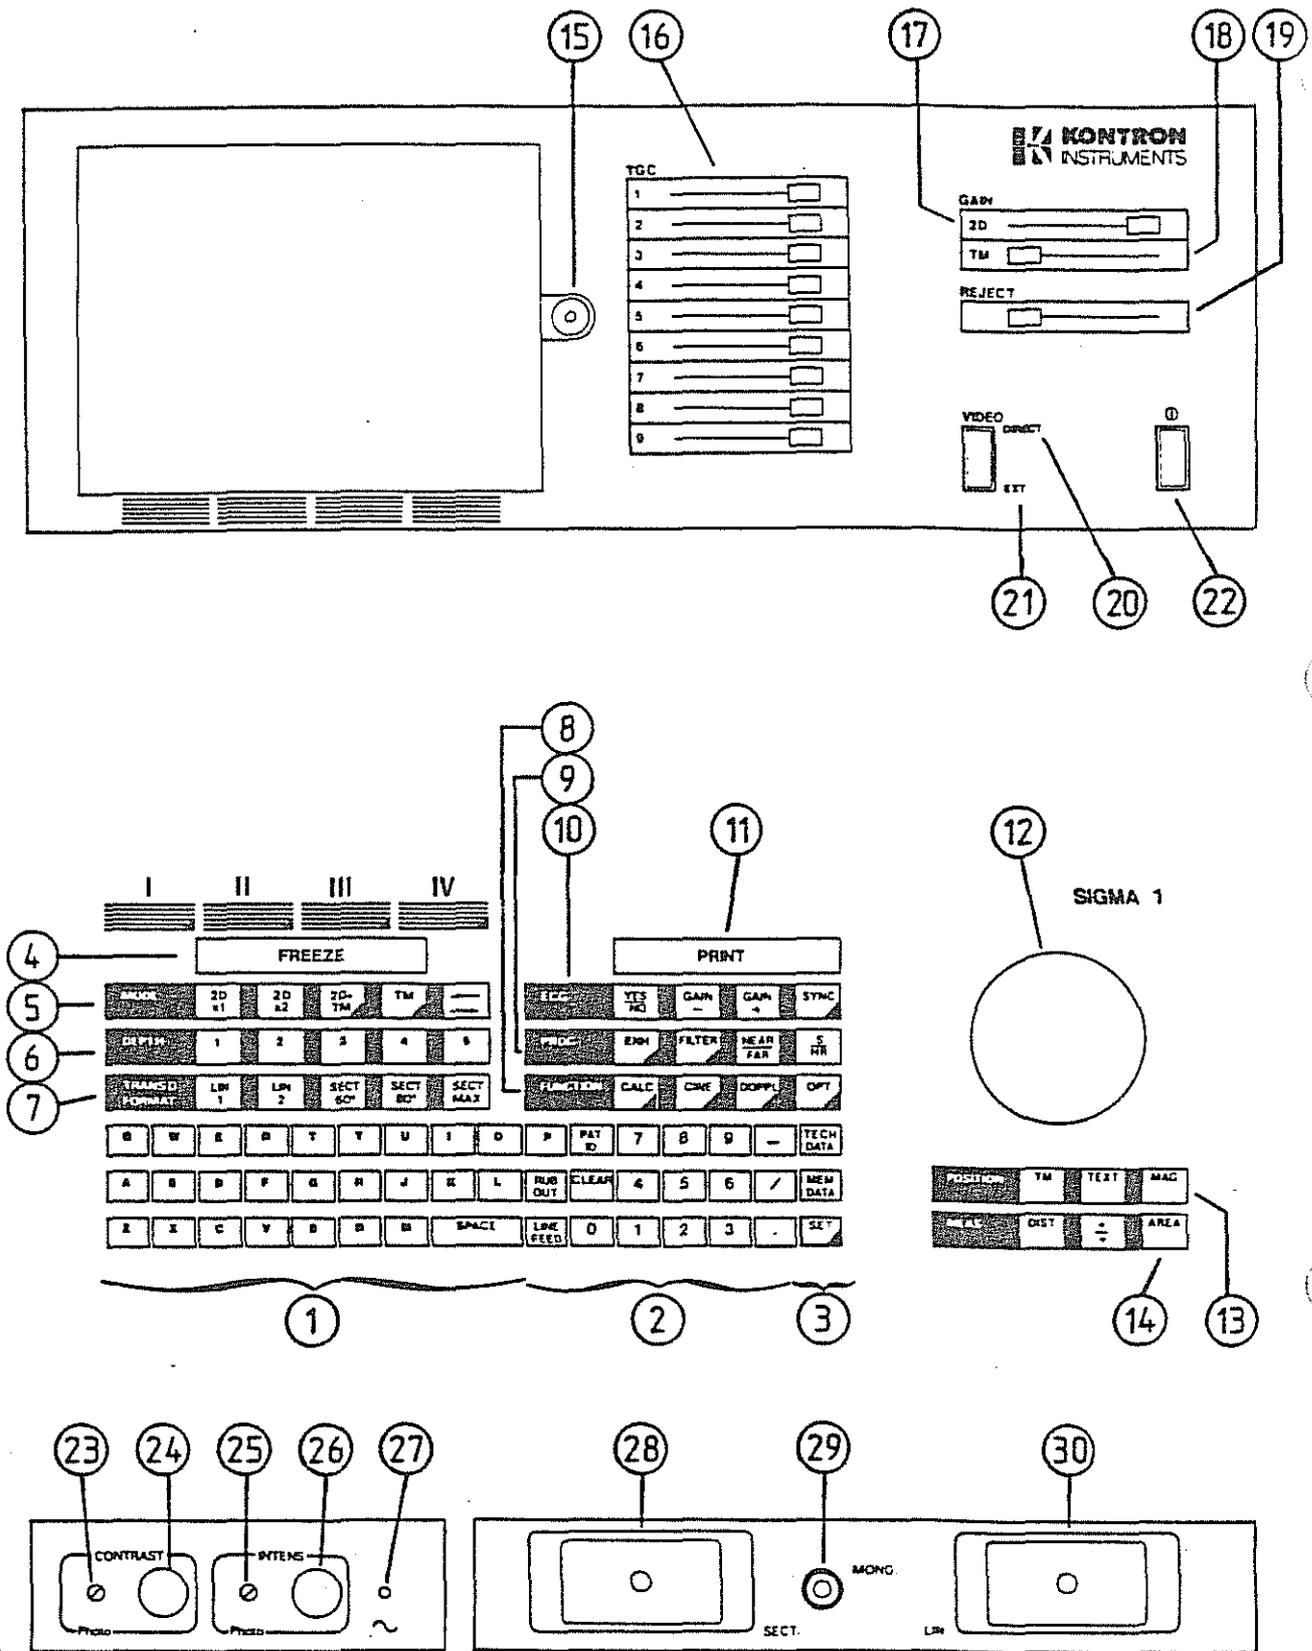

Figure 2-1 Front panels
The upper panels (See Figure 2-1, items ① through ②②) contain :
The lower panel (Figure 2-1, items ②③ through ③①) contains :
KEYS FOR FIGURE 2-1
The letters and numerals of the keyboard (Figure 2-1. Items ① and ②) allows the user to formulate and enter patient and examination data.
The dedicated function keys (Figure 2-1, items ① , ② and ③) are described as follows :
The function keys (Figure 2-1, Items ④ through ⑪, ⑬ and ⑭) have the following functional characteristics :